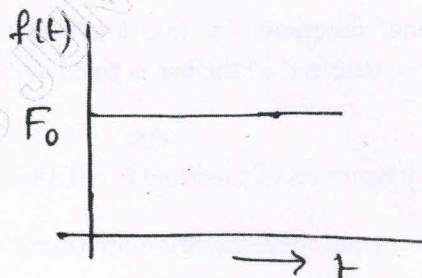

Fig.Q5(a)
- 5 a. Determine the response of a SDOF system to the step excitation shown in the Fig.Q5(a).